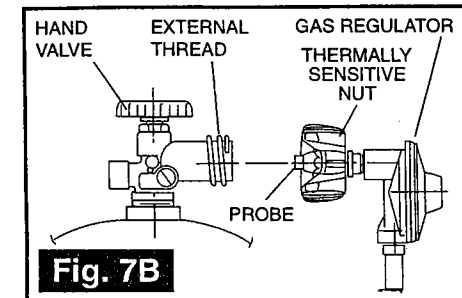

Fig. 7B
- Propane cylinder valve -- including threads into cylinder (see Figure 7B)
- Regulator fitting and propane cylinder connection (see Figure 7B)